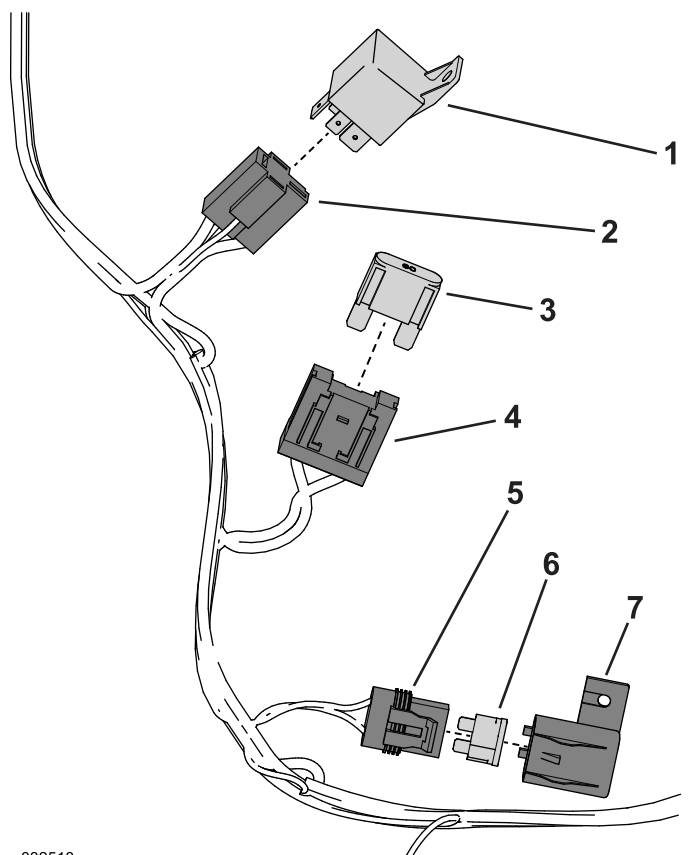

Figure 37
- 1. Assemble the following components to the wire harness (Figure 37).
2. Install the relay to the relay connector (Figure 37).
3. Install the fuse (60 A) to the fuse holder (Figure 37).
4. Install the fuse (10 A) to the fuse assembly and secure it with the fuse-assembly cap (Figure 37).